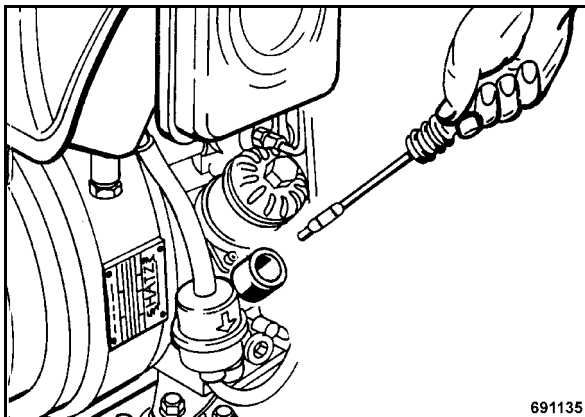

Fig. 62
- Pull the dipstick (Fig. 62) out.